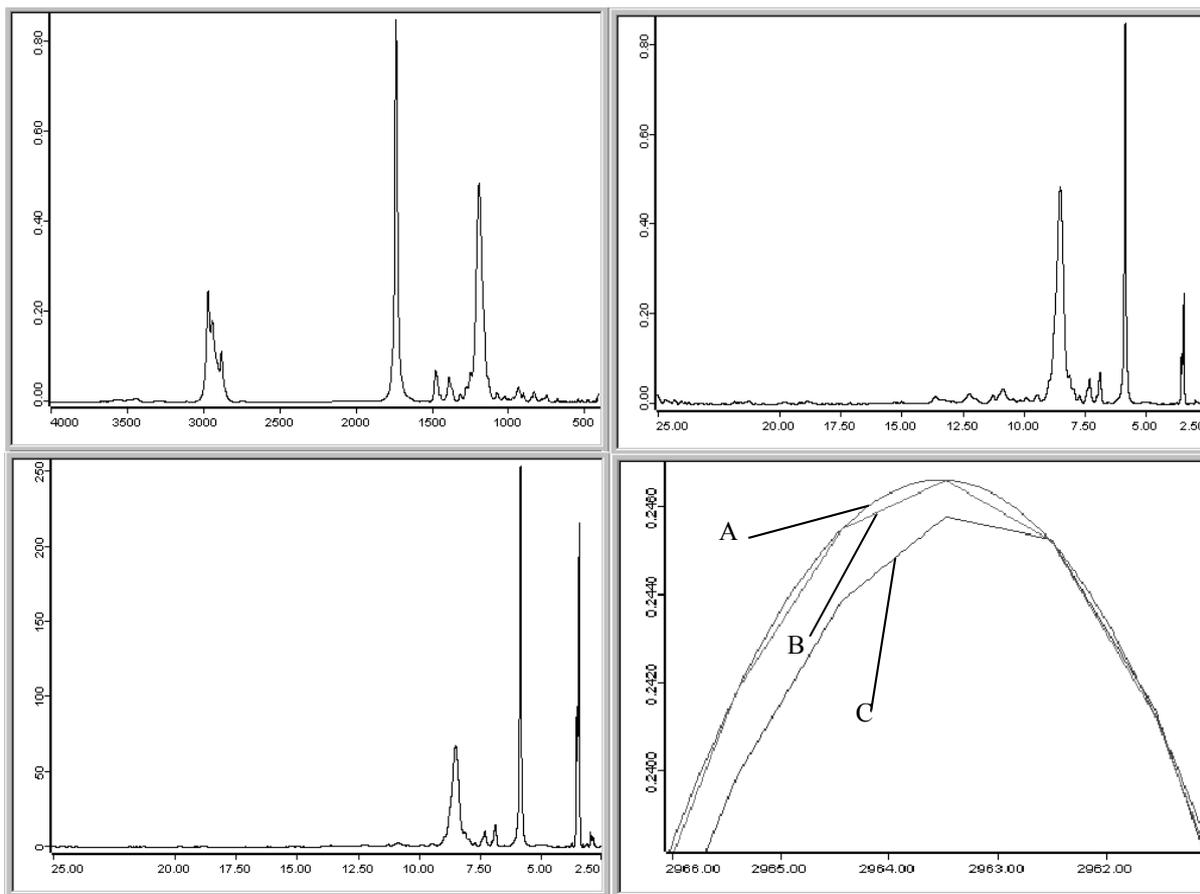

Figure 153: Original data and converted spectra after abscissa conversion
The upper left spectrum in figure 153 shows the original data scaled in wave numbers. On the right it has been converted to wavelenghts, with the intensities remaining unchanged. In the lower left spectrum the intensities have been converted without changing the integrals. The lower right spectrum shows the original spectrum (B) which has been converted from wave numbers to wavelenghts and reconverted for comparison. Spectrum (A) uses an MCF of 1, spectrum (C) an MCF of 15. The number of data points in (A) is about ten times higher than in (C), and comes very close to the original data.